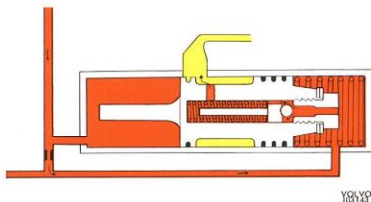

Fig. 6-49. Control valve, maximum pressure
Should the pump flow through the outlet be stopped, for example, because the front wheel turning is blocked, the pressure in the delivery line (1), will rise and the pressure difference between both ends of the control valve will be equalized. This will cause the spring to be moved to the left, the connection with the return channel to be closed and the pressure to rise even more. At about 75 kP/cm² (1066 psi) the spring pressure on the safety valve (6) is overcome, that is, the inner part of the control valve, and oil can then pass out to the return channel (4). See Fig. 6-49. The pressure on the right-hand side of the piston will then drop and the entire control valve will be moved to the right so that the connection with the return channel opens. When the pressure drops to its normal value, the safety valve closes and the control valve returns to its normal position.